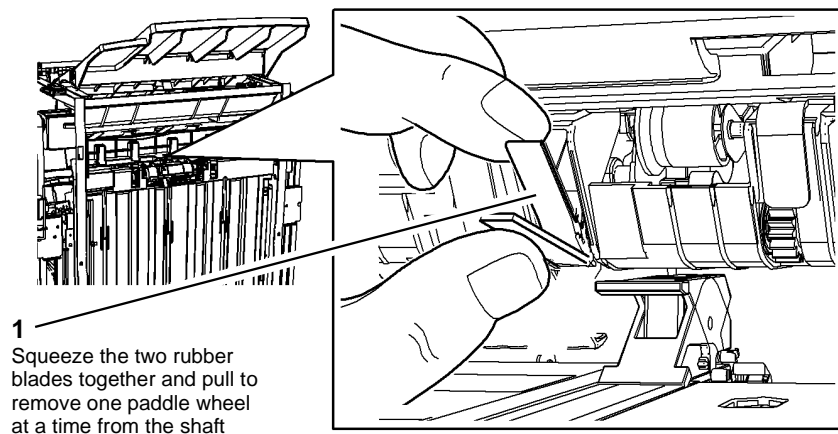

Figure 1 Paddle removal
2. Remove one paddle wheel at a time from the shaft, Figure 1.